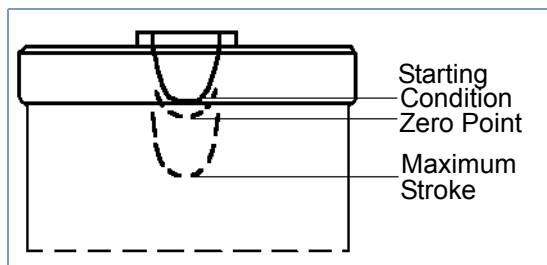

Fig. 4 Zero Point
- Detect zero point (first pressure increase) by slowly impressing the stem (see fig. 4).